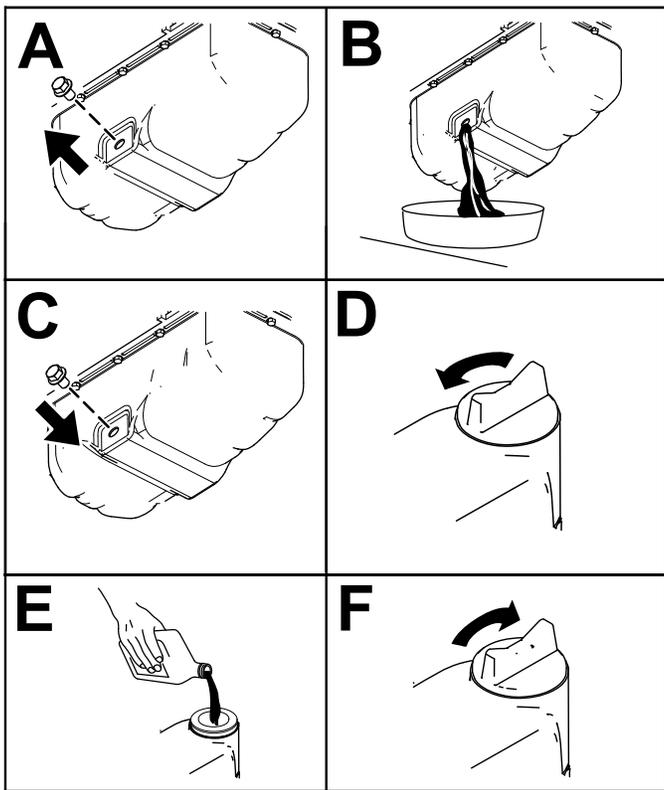

Figure 54
3. Change the engine oil as shown in Figure 54.